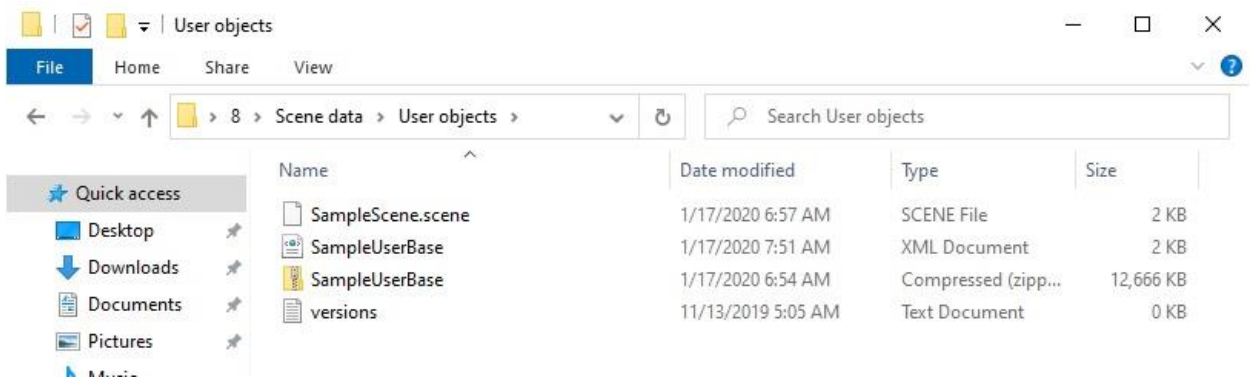

Figure 1.21. *{UM Data}\Scene data\User object* folder
- Finally copy the archive to the standard folder for the user 3D object collection *{UM Data}\Scene data\User object*, see Figure 1.21.